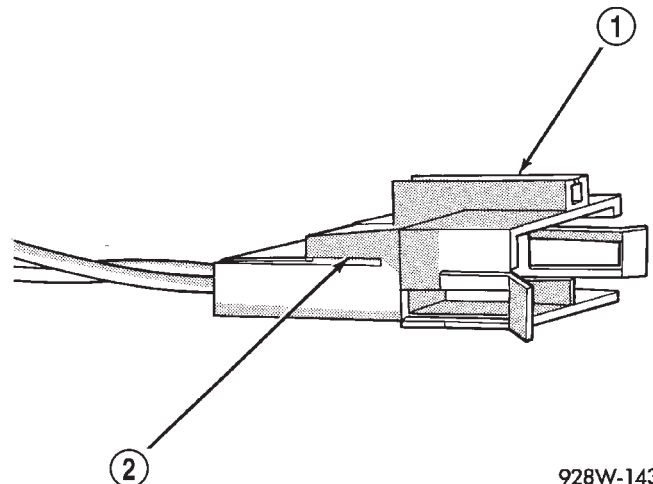

Fig. 15 Connector Locking Wedge
- (1) Disconnect battery.
- (2) Disconnect the connector that is to be repaired from its mating half/component.
- (3) Remove the connector locking wedge, if required (Fig. 15).